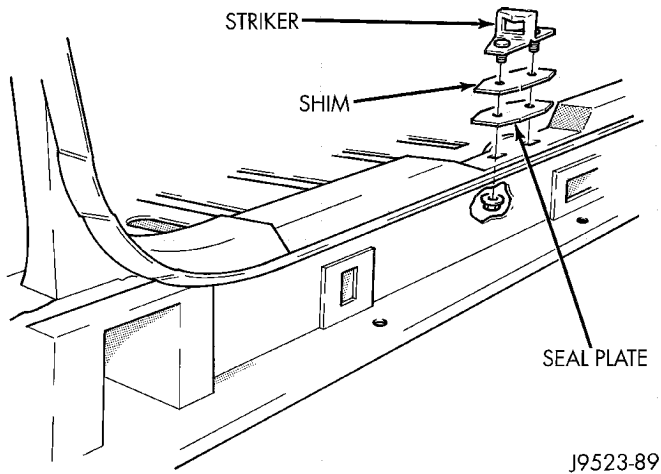

Fig. 65 Liftgate Latch Striker
- (1) Raise liftgate.
- (2) Remove latch striker nuts from below scuff plate. Access nuts from under bumper fascia/beam (Fig. 65).
- (3) Remove striker, shim and seal plate.